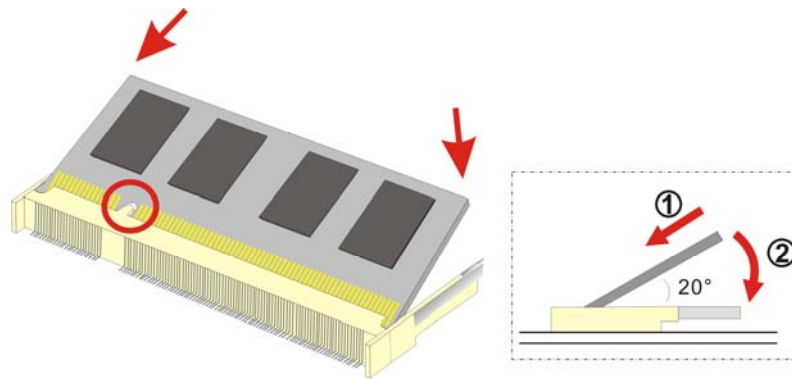

Figure 5-3: DDR SO-DIMM Module Installation
Step 8: Install the new DDR3 memory module by pushing it into the socket at an angle (Figure 5-3).
Step 9: Gently pull the spring retainer clips of the SO-DIMM socket out and push the rear of the DDR memory module down (Figure 5-3).